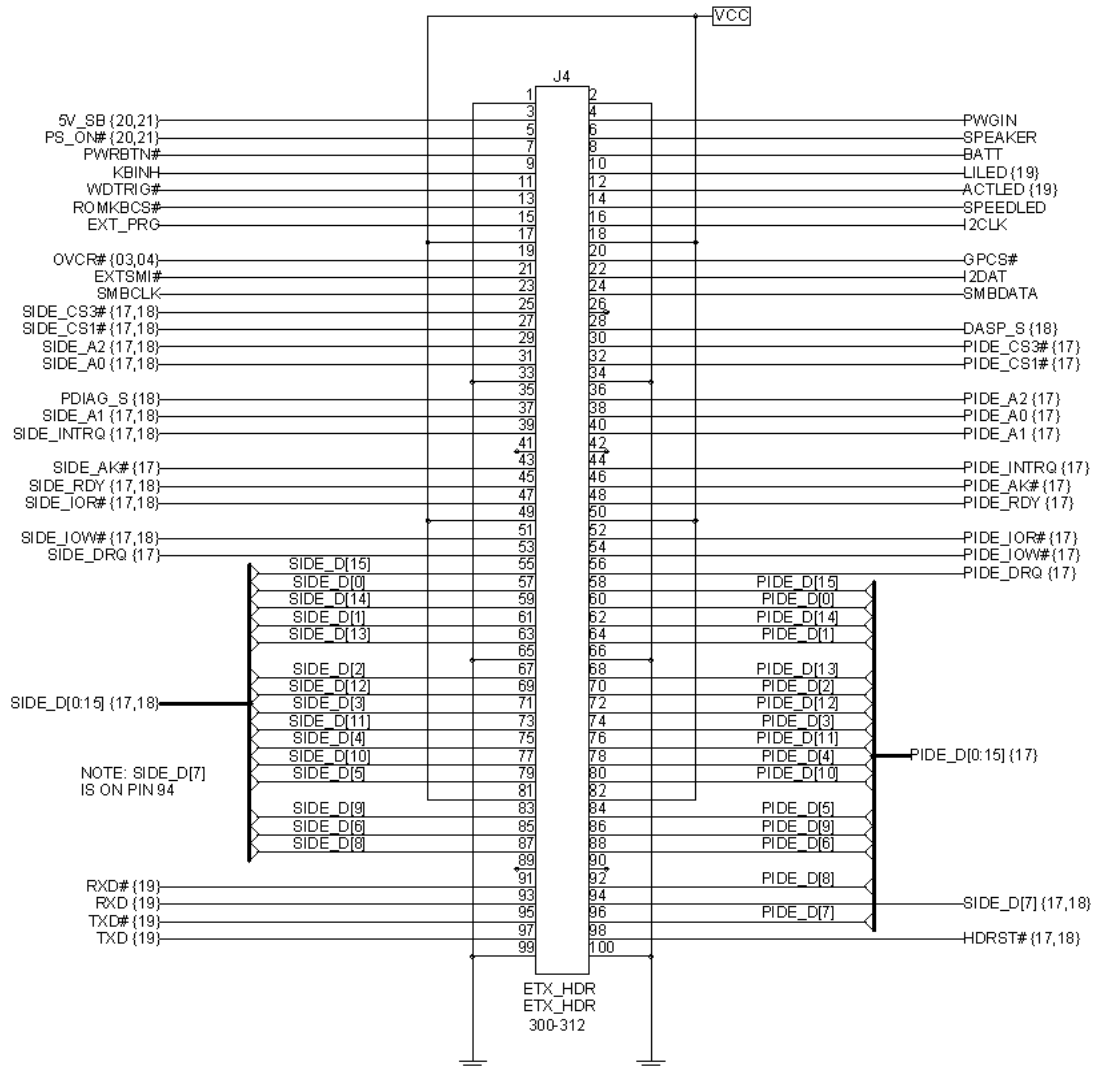

Figure 18 – ETX® Connector X4
The (04) following each net name indicates that this signal connects to an identical net name within Figure 18 (which shows the ETX® X4 connector).